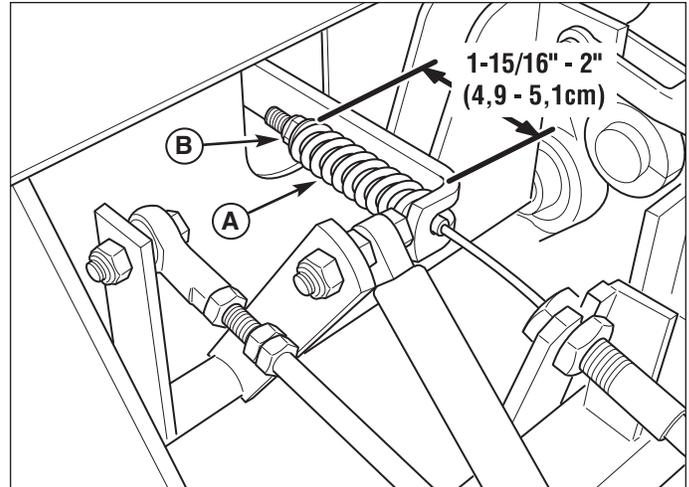

Figure 40. Parking Brake Adjustment
3. Locate the brake spring (A, Figure 40).
5. If the spring is not within this range, release the parking brake and turn the adjustment nut (B) to compress or release the spring.
4. Remove the upper shock mounting hardware and pivot the shock to the position #2 (see Figure 40). Adjust the jack to align the shock mounts to the shocks.